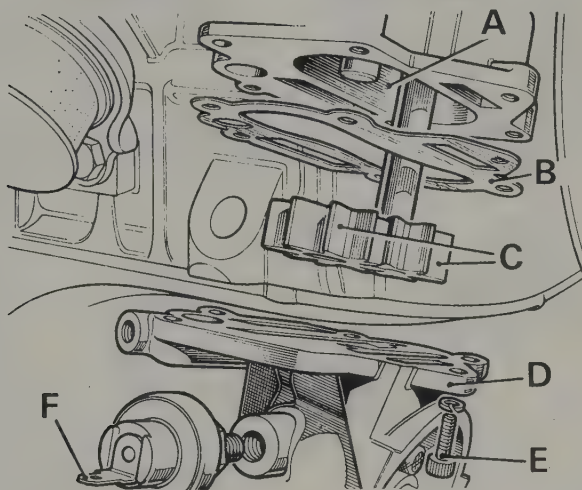

Fig. 1.37. Oil pump detail
- 5 Slide out the pump gears. (See Fig. 1.37).